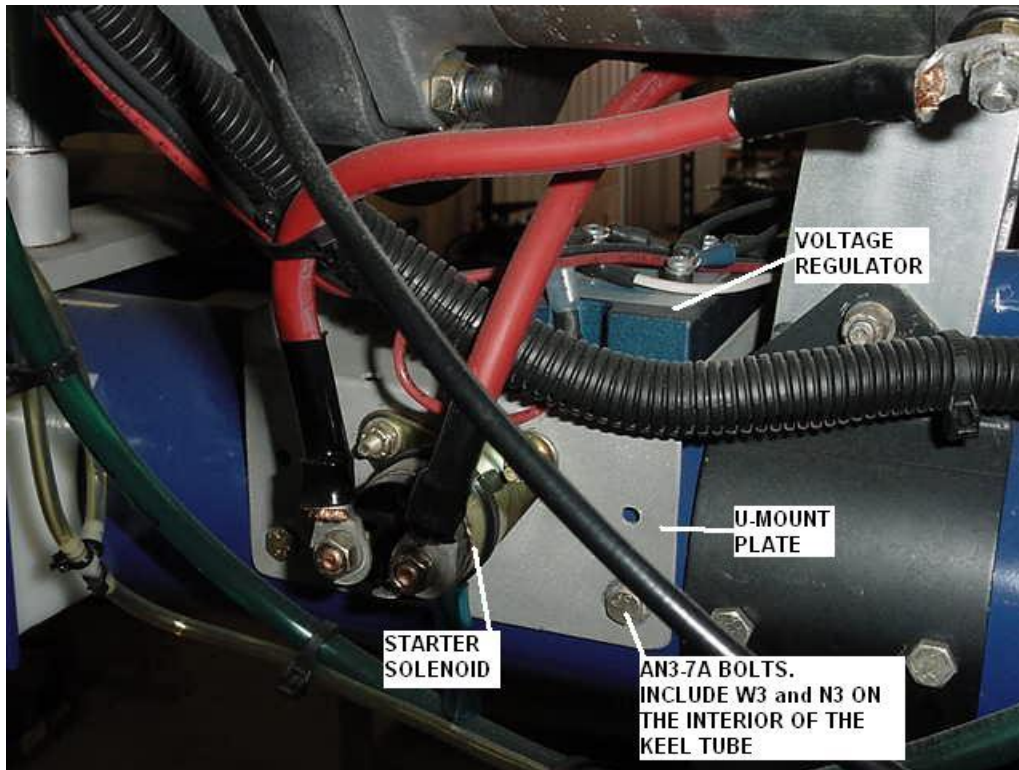

Figure 15 – Starter Solenoid & Voltage Regulator
If you have the electric start option mount the Key West Voltage Regulator and Starter Solenoid to the U-Mount plate provided with the kit. The battery and battery box also mount to this opposite the starter solenoid. Mount plate to the keel tube using bolts. You will need to drill (4) holes in the "SIDE" of the keel tube to mount the plate. Refer to Figure 15.